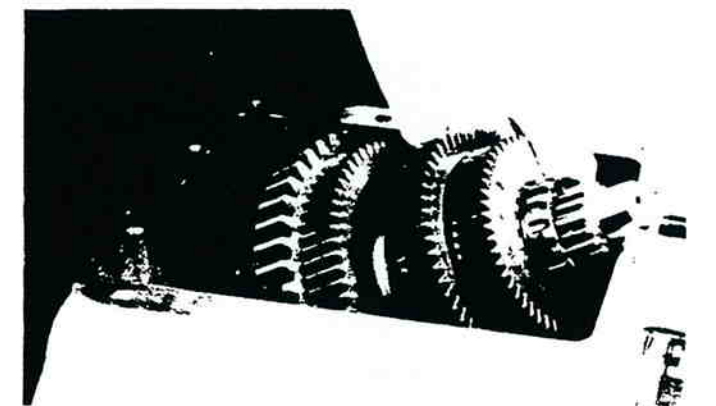

Figure 13-48. Mainshaft Tilted Up.
2. While holding 3rd and 4th speed gears, tilt the front of the mainshaft up and lift assembly from case (figure 13-48).